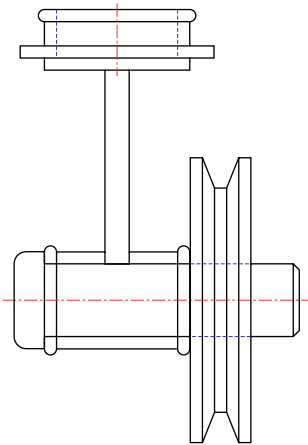

Fig. 10.19 Example – Xrefs
Example – External References (Fig. 10.19)
8. Now reopen the original drawing. The **external reference** within the drawing has changed in accordance with the alterations to the spindle drawing (Fig. 10.19).